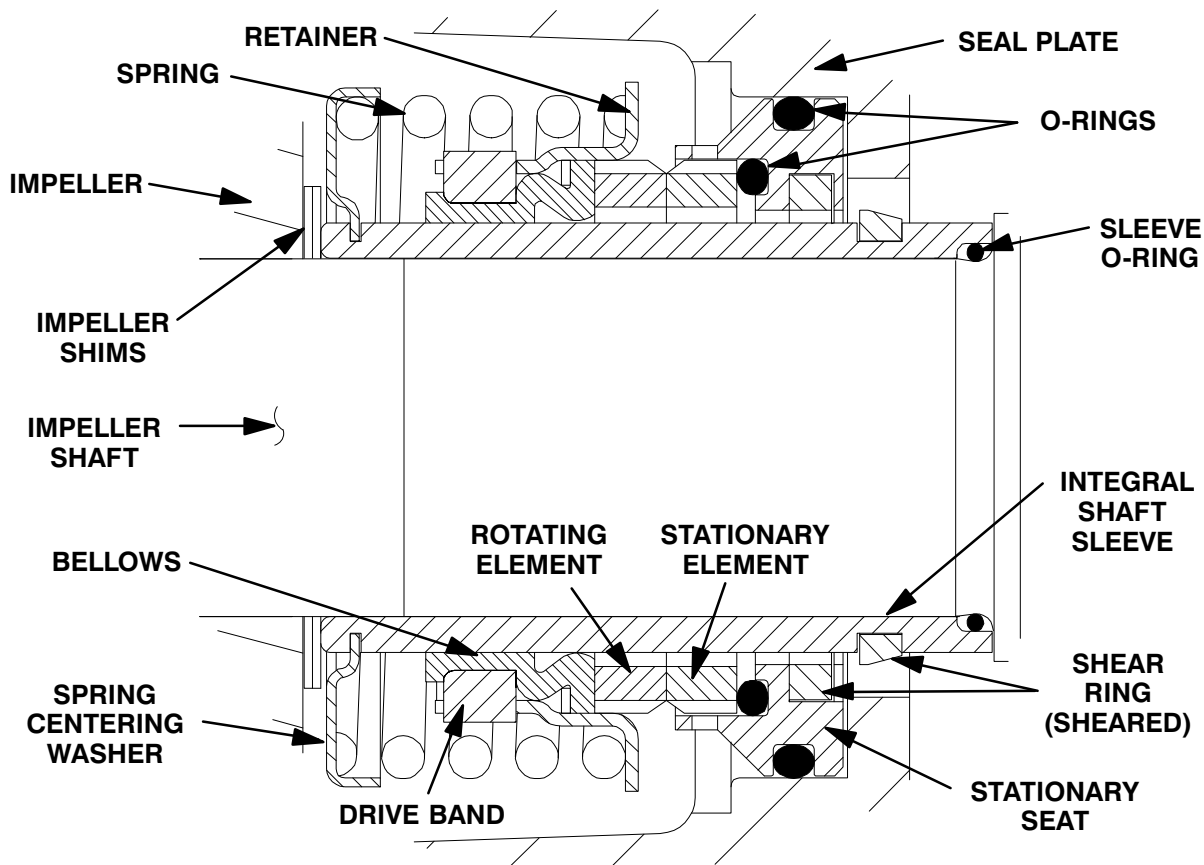

Figure 8. Cartridge Seal Assembly
To ease installation of the seal, lubricate the shaft sleeve O-ring (19) and the external stationary seat O-ring with a very **small** amount of “P-80® Emulsion” or water. See Figure 8 for seal part identification.